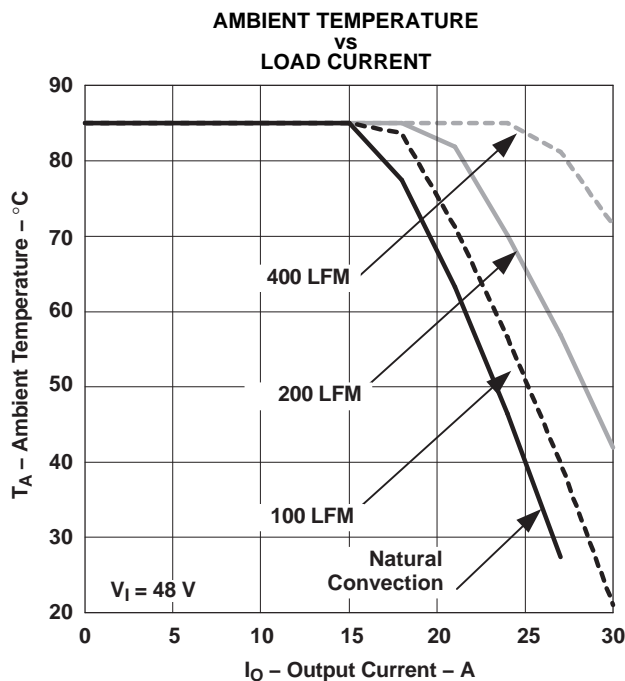

Figure 8.
- (2) The temperature derating curves represent operating conditions at which internal components are at or below manufacturer's maximum rated operating temperature. Derating limits apply to modules soldered directly to a 100-mm × 100-mm, double-sided PCB with 2 oz. copper. For surface mount packages, multiple vias (plated through holes) are required to add thermal paths around the power pins. Please refer to the mechanical specification for more information. Applies to Figure 8.